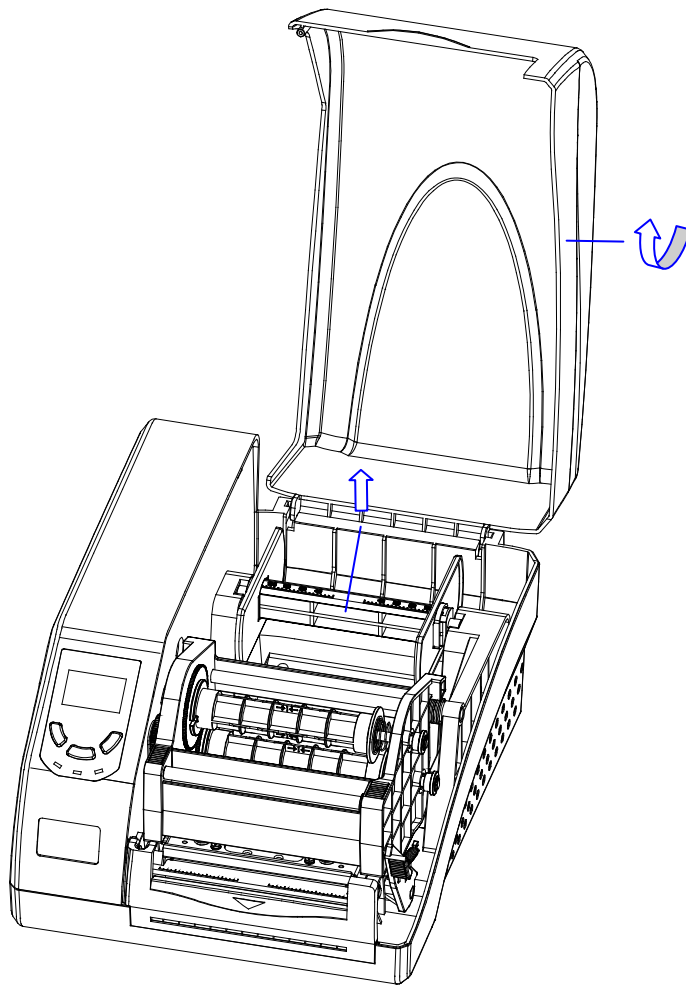

Figure 6-1
1. Lift up the top cover to expose the media compartment (see Figure 6-1).